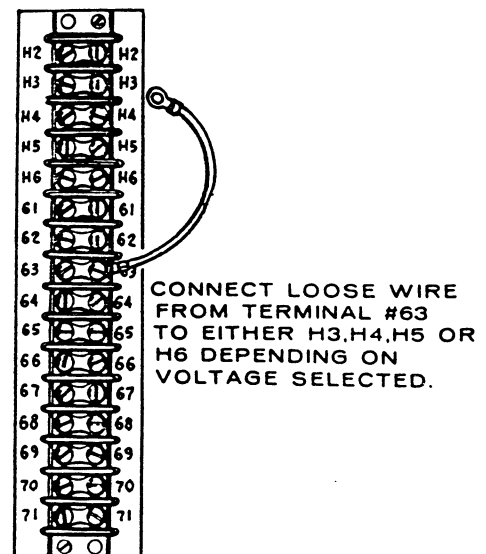

FIGURE 16. CONNECTING LEAD FROM TERMINAL 63
3. Open hinged control panel doors. Connect lead from terminal 63 to correct terminal for voltage desired. These terminals are labeled H2, H3, H4, H5 and H6. See Figure 16.